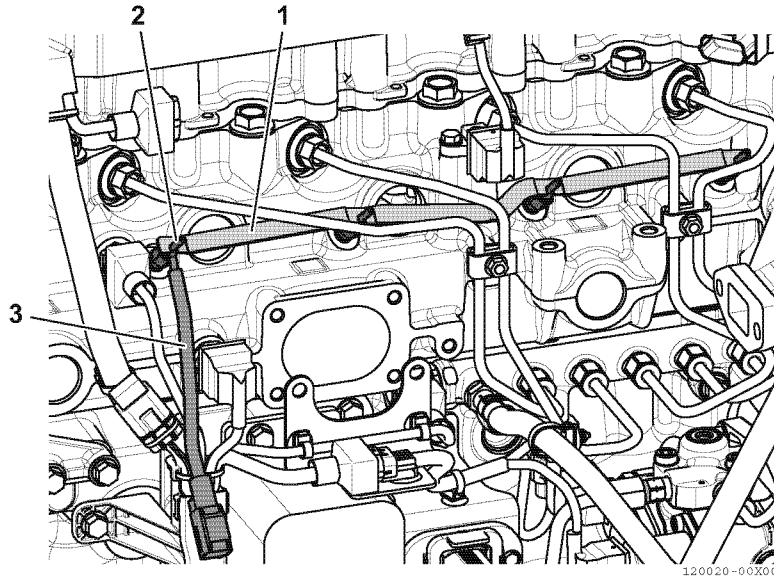

Fig.70-11
1. Loosen the four M4 terminal nuts that fasten the glow plug connector (1, Fig.70-11) and the glow plug (2, Fig.70-11), and then remove the glow plug connector and the glow plug harness (3, Fig.70-11).